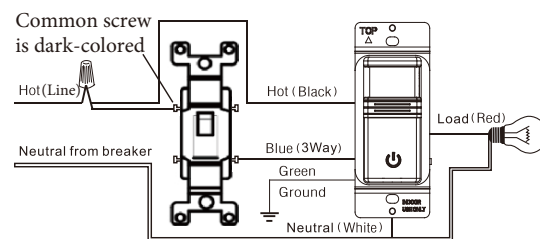

Figure 5: Black to Black and Common, White wires together, Green to Ground, Red to Load and Blue to Traveler.
- Wire according to the wiring diagram below (see figure 5).